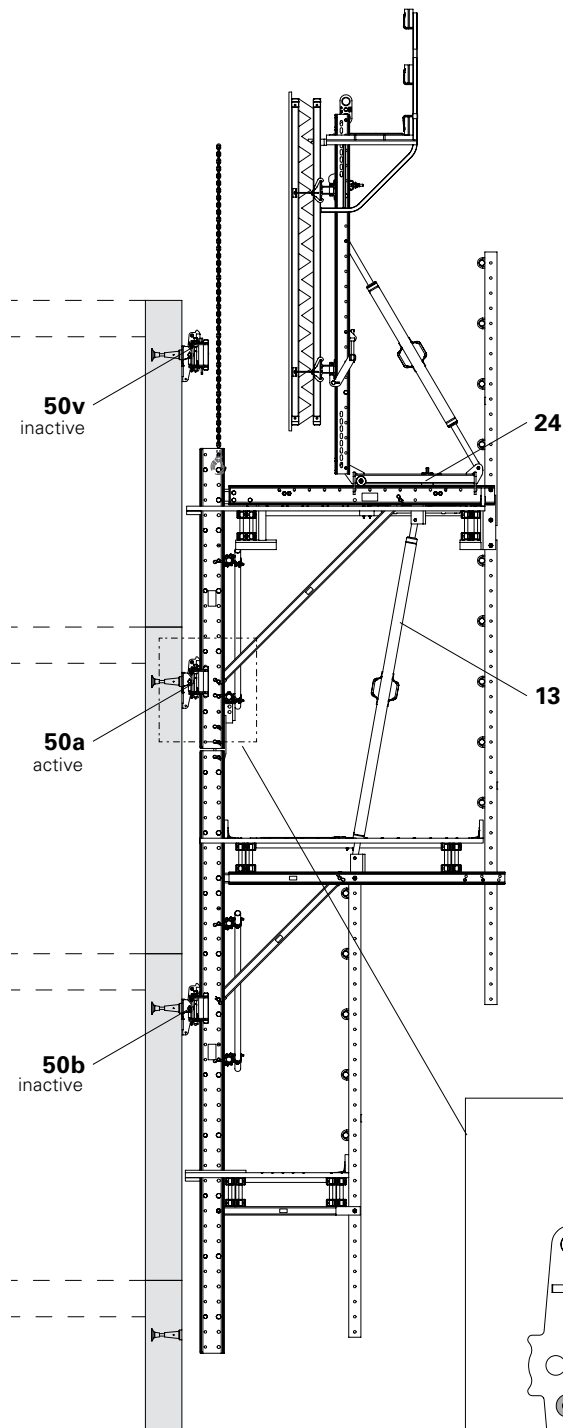

Fig. D6.02
1. Slowly lift the climbing unit by crane to the next concreting section until the climbing pawls (**50.1**) of the Climbing Shoes (**50a**) audibly engage the planned Spacers (**3**). (Fig. D6.02 + D6.02a)